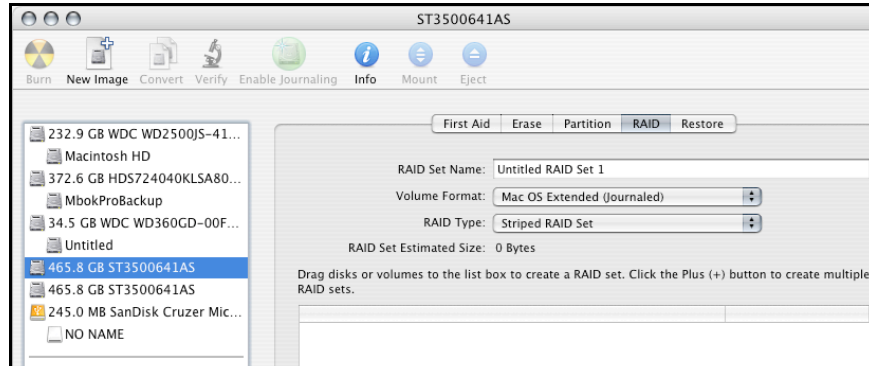

Figure 9: Selecting the RAID tab in Apple's *Disk Utility*
- Select the *RAID* tab in Apple's *Disk Utility* (see Figure 9)